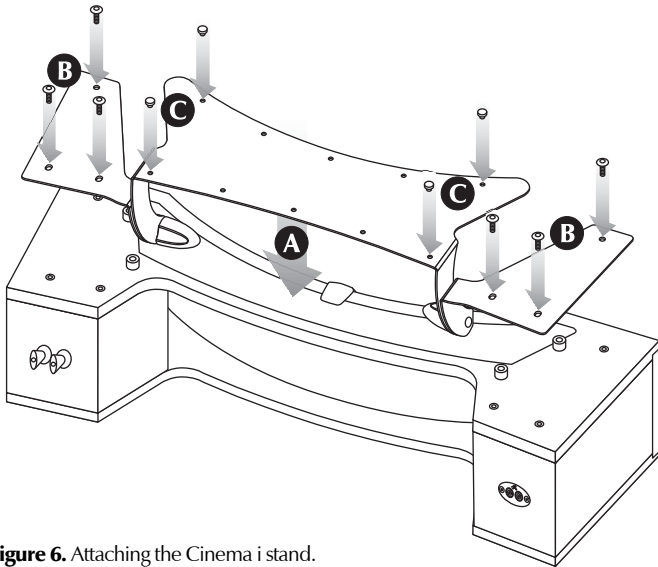

Figure 6. Attaching the Cinema i stand.
- 2 Line up the 6 holes on the metal brackets (3 per side) with the threaded inserts on the bottom of the Cinema i (figure 6, step A).
- 3 By hand, thread $\frac{5}{32}$ " Allen bolts into the front 2 threaded inserts (1 per side) that are nearest the woofers. Then, thread in the remaining 4 bolts (2 per side) and tighten each one with the $\frac{5}{32}$ " Allen tool (figure 6, step B).
- 4 Make sure that the stand's 4 small rubber feet are installed in the 4 outer holes located on bottom of the stands center piece. If the small rubber feet have been removed from the stand they can be easily reinserted by slightly moistening the feet and twisting them into the holes with firm pressure (figure 6, step C).